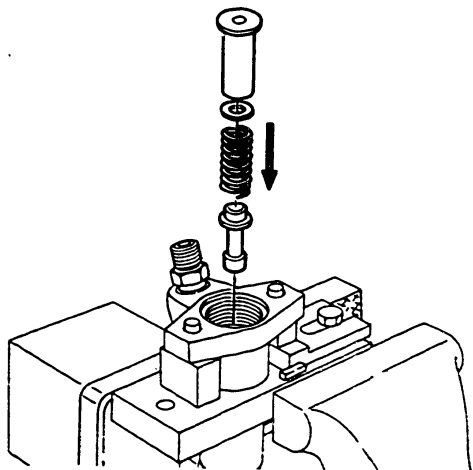

Fig. 21 Pushrod, spring, shim and spacer installation
7. Install the first pushrod (4), first spring (5), and shim (6).
8. Install the spacer (7). (Fig. 21).